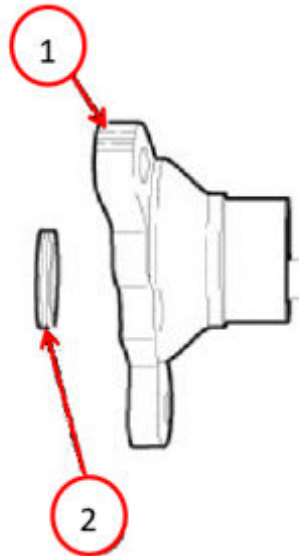

Fig. 54
81. For 2WD vehicles, remove old seal from the output flange and replace with new output flange o-ring Fig. 54.